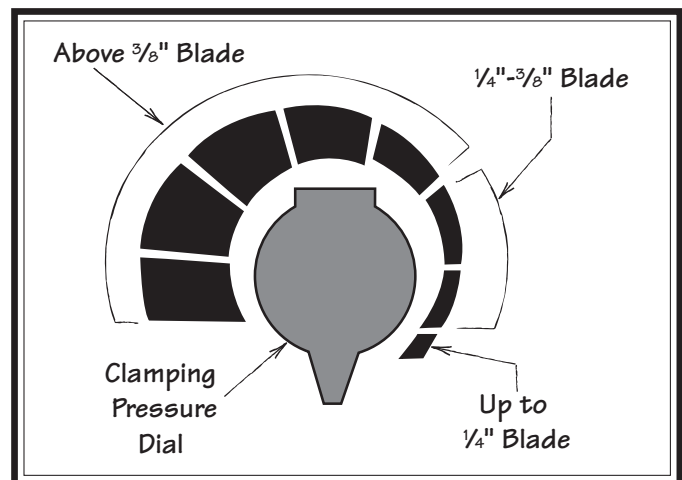

Figure 28. Blade clamping settings.
7. Use the illustration in **Figure 28** and set the correct clamping pressure setting for width of the blade.